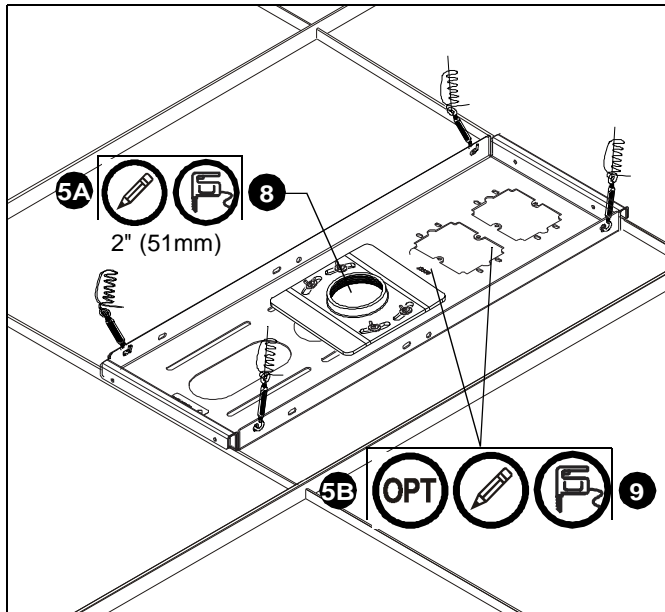

Figure 4
5. Mark the following locations on ceiling tile with pencil (See Figure 4):